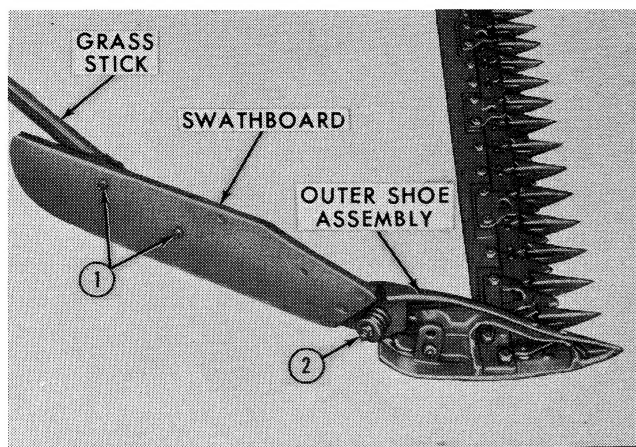

Figure 41
32. Attach the swathboard to the outer shoe assembly with the 1/2" - 13 x 2-3/4" carriage bolts (2), spring, flat washer, slotted nut, and cotter pin, as shown in Figure 41.
33. Attach the grass stick and clamp to the swathboard with the two bolts (1), flat washers, lock washers, and nuts, as shown.